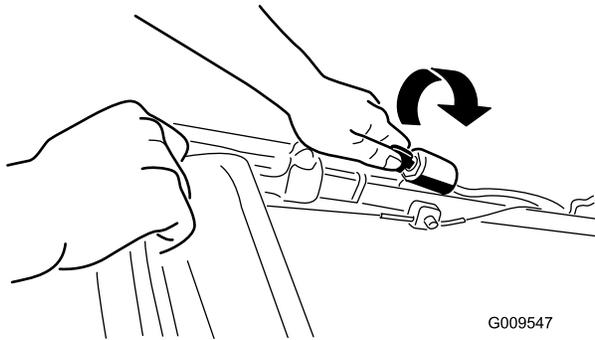
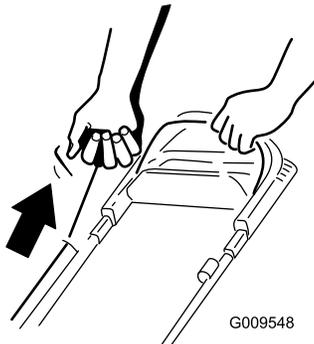

Figure 14
Figure 15
2. Turn the ignition key (Figure 14) (electric-start model only) or pull the recoil-start handle (Figure 15).
Note: When you pull the recoil-start handle, pull it lightly until you feel resistance, then pull it sharply (Figure 15). Allow the rope to return to the handle slowly.